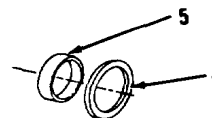

Figure 13-63.
12. Apply clean engine oil to lip of seal (4) and outside diameter of wear sleeve (5, Figure 13-63).